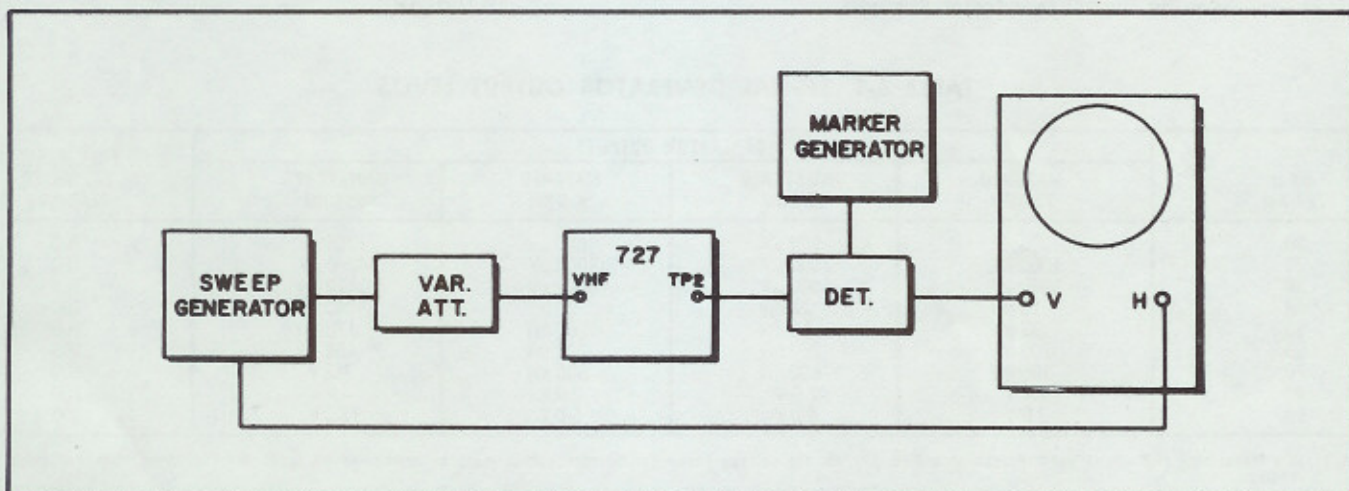
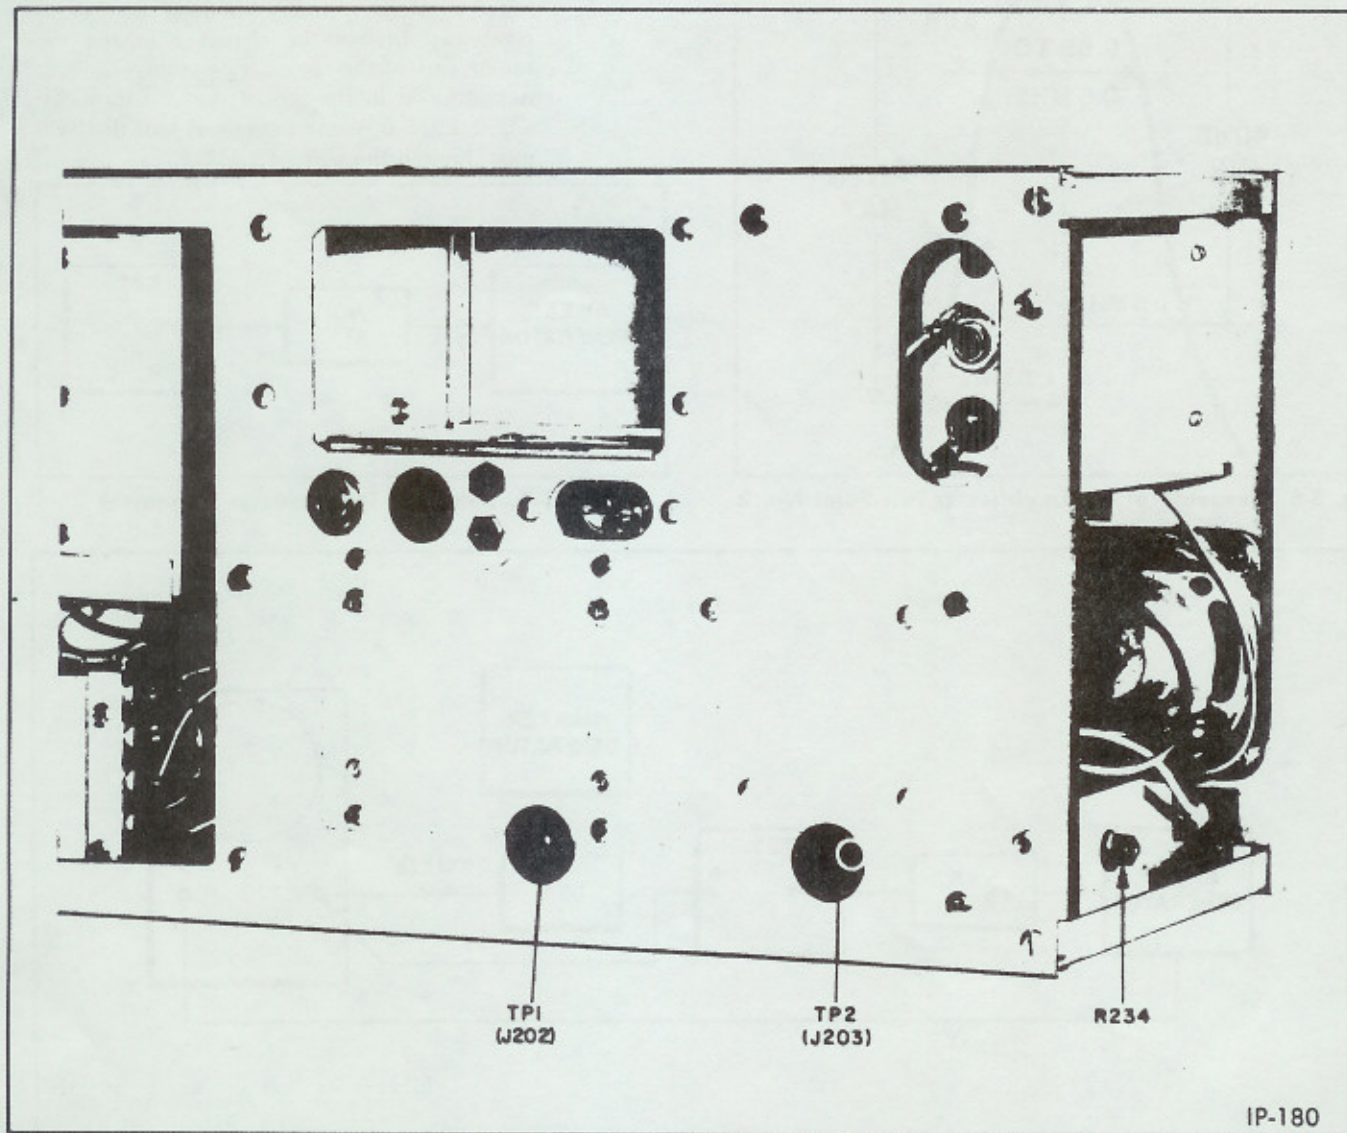

Fig. 5-4. Setup for I-F Amplifier Alignment
Fig. 5-8. Location of R234, TP1, and TP2
9. Set up equipment as shown in Fig. 5-4; test point no. 2 is accessible through a hole in the chassis rear panel near the lower left corner (Fig. 5-8).